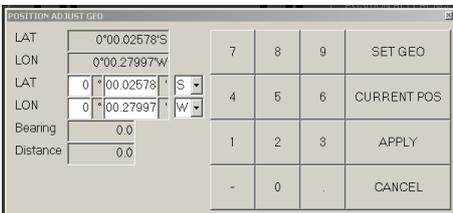

Figure 57: Change Target Set Point
2. Double click on the latitude or longitude coordinate in the dialog box that appears (*Figure 57: Change Target Set Point on page 65*).